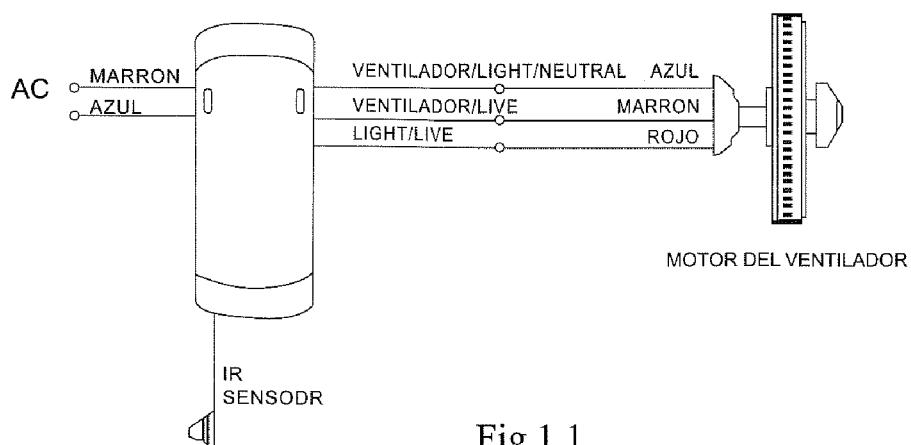
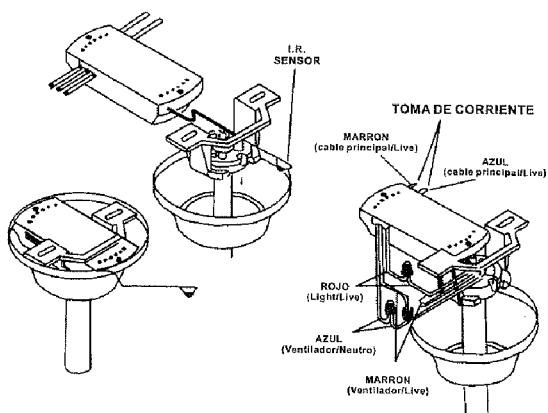
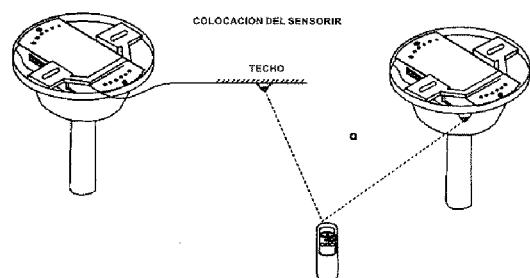

Fig.1.1
Fig.1.2
Fig .2
1. Connect the wires as shown in the illustrations (Fig. 1.1 y Fig. 1.2.) Place the infrared sensor always out of the bezel. Its location will depend on the reception conditions. (Fig. 2)
2. After connecting the cables insert the receiver into the fan bracket as shown in the illustration (Fig. 1.2) and cover with the bezel.